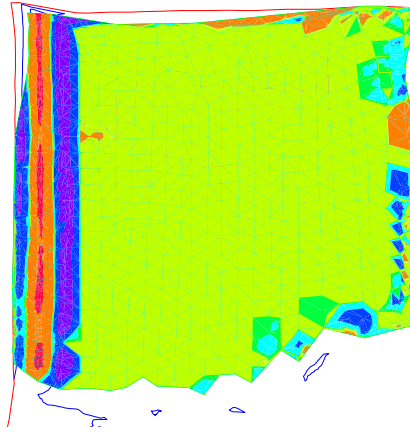

Figure 4-22 The volume surface with elevation band
11. In the **Ranges** area, retain the default settings and choose the **Run analysis** button; the results are displayed in the **Range Details** area. Choose the **Apply** button; the volume surface shows elevation bands in different colors, as shown in Figure 4-22. Different color bands represent various elevation ranges in the surface.